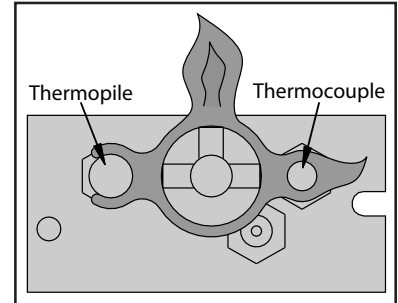

Figure 3: Pilot Flame
1. Turn off the gas to the fireplace. **If not recently done, remove the glass and let the unit air out for at least five (5) minutes to clear out any gas.** Turn on gas to the heater. Leak test all joints with soapy water. **NEVER USE OPEN FLAME FOR LEAK TESTING.**
2. Start the pilot by pressing the gas control knob and turning it to PILOT. While holding the gas control knob in, press the piezo ignitor several times until the pilot light starts. Hold the gas control knob in for 30 seconds. Check that the pilot has fully engulfed the thermocouple assembly (see Figure 3).